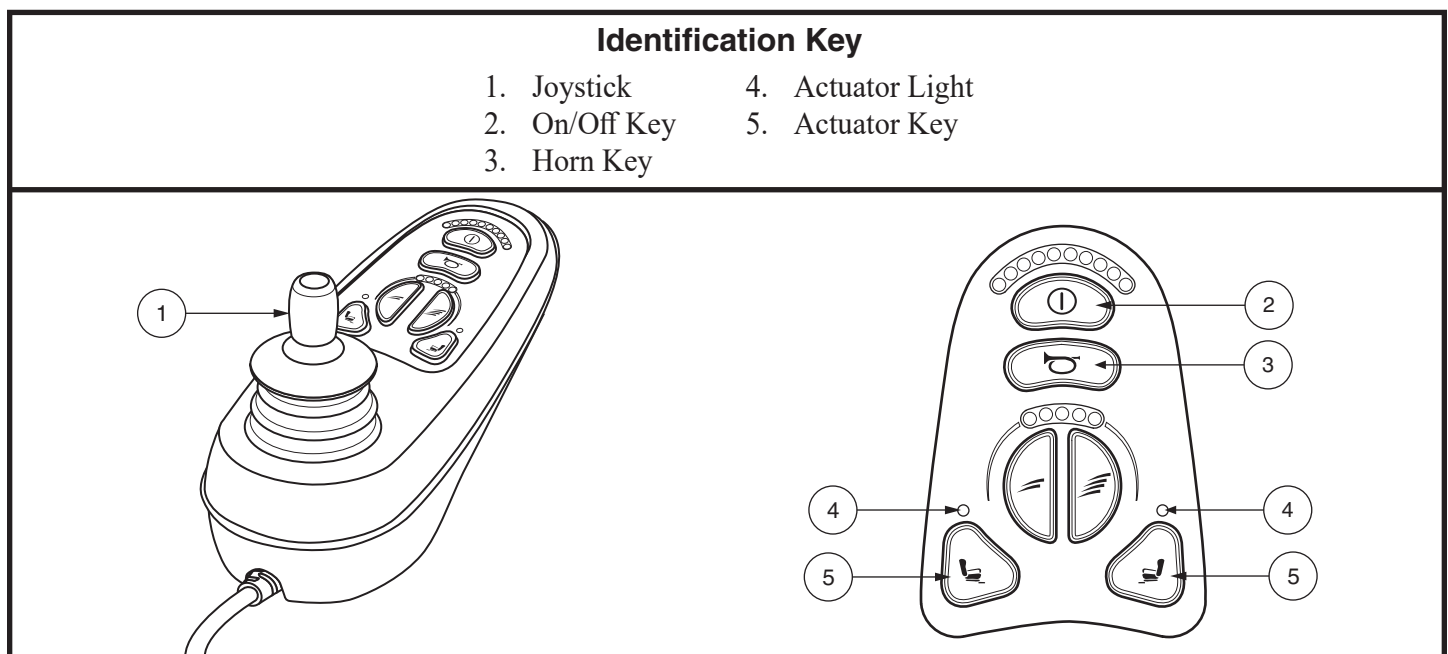

Figure 14. VR2 6-key Controller and Keypad
1. Push the on/off key to power on the chair and the controller. **See figure 14.**
2. Push the desired actuator key to select actuator mode. **See figure 14.**
5. Push the on/off key to return to drive mode. **See figure 14.**